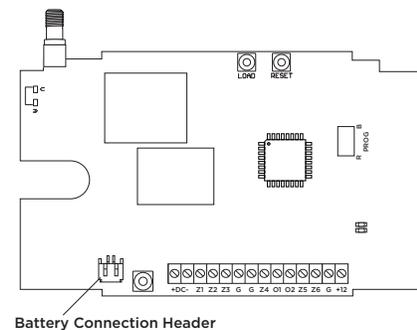

Figure 2: Backup Battery Connection on Panel
3. Connect the **battery lead connector** to the battery connection header on the panel. Refer to Figure 2.